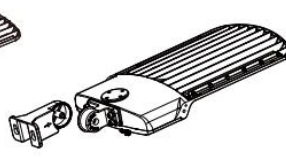
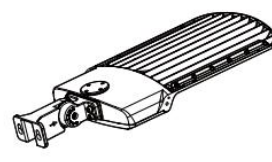

Figure 7
Figure 8
4. YOKE MOUNTING (YM) Step 1: Remove the bracket mounting screws on the fixture and run the wires through the bracket. (Figure 7) Step 2: Install the bracket on the fixture. (Figure 8)